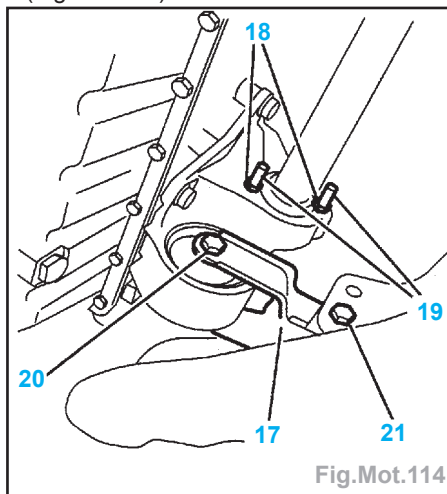

Fig.Mot.114
- Mettre en place le raccord (7).
- Reposer la bielle anti-couple (17) (Fig.Mot.114).